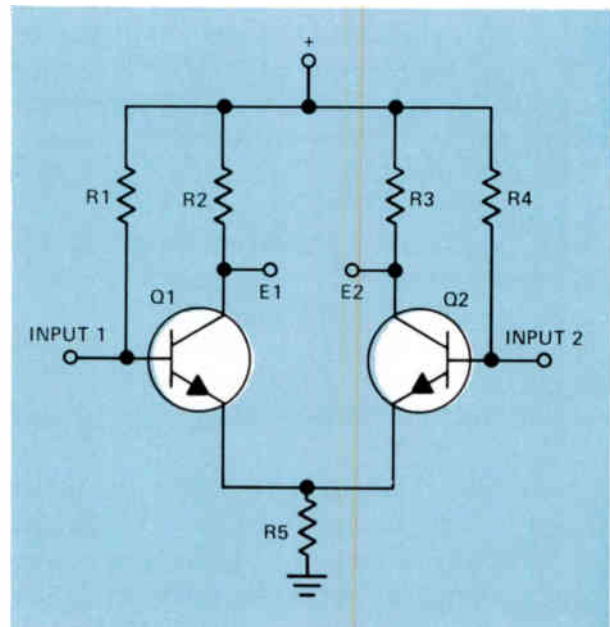

Figure 11. The basic differential amplifier circuit.
One of the most widely used amplifier circuits in linear ICs is the differential amplifier shown in Fig.11. Since the amplifier uses
than the gain of the differential amplifier shown in Fig.11.
- 4 If a differential amplifier, such as the one shown in Fig.11, is designed to provide a voltage gain of 10 in each stage, and a 1 volt positive signal is applied to both inputs, what will the output voltage be?